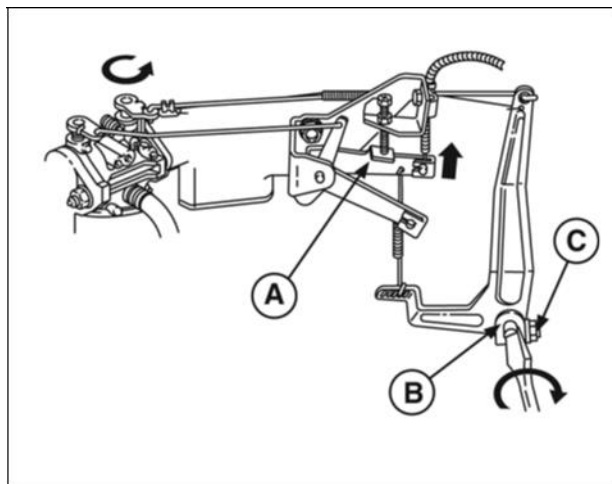

Figure 26
1. Move governor control lever (A, Figure 26) up to end of travel and hold in this position (throttle wide open).
2. Rotate governor shaft (B) clockwise to end of travel.
3. Torque governor nut (C) to value listed in Section 14 - Engine Specifications.